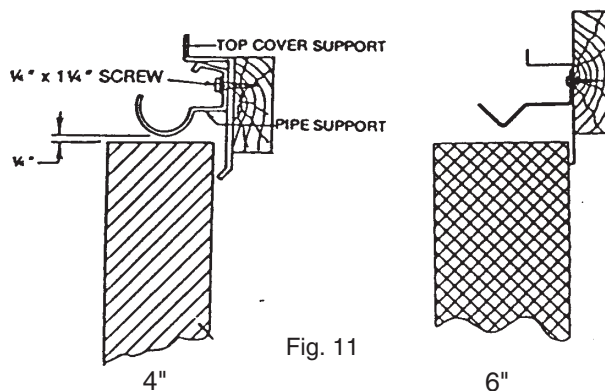
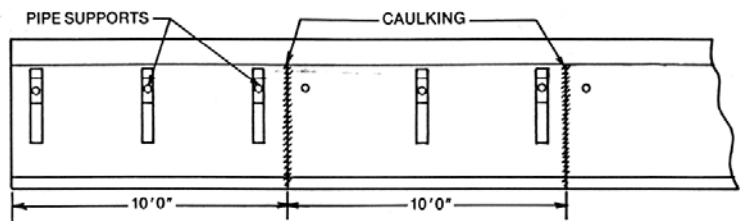

Fig. 11
Fig. 12
1. Place a pad in the gutter assembly to establish the position of the top cover support and pipe support. The pipe support should be approximately 1/4" (.635 cm) above the pad. Mark the location of the mounting hole (see Fig. 11). Follow this procedure for both ends and the midpoint. Run a chalk line through the midpoint mark and the end marks. This will indicate the position of the mounting hole on the top stringer when installing the top cover support and the pipe supports.
2. Mount the top cover support and the pipe support by aligning the mounting holes with the chalk line mark on the top stringer as shown in Fig. 11 and secure with the 1/4" x 1 1/4" (.635 cm X 3.175 cm) screws. Note only one pipe support at each joint (see Fig. 12).
3. Caulk the top cover support joint so that water will not seep through the top stringer (see Fig. 12).